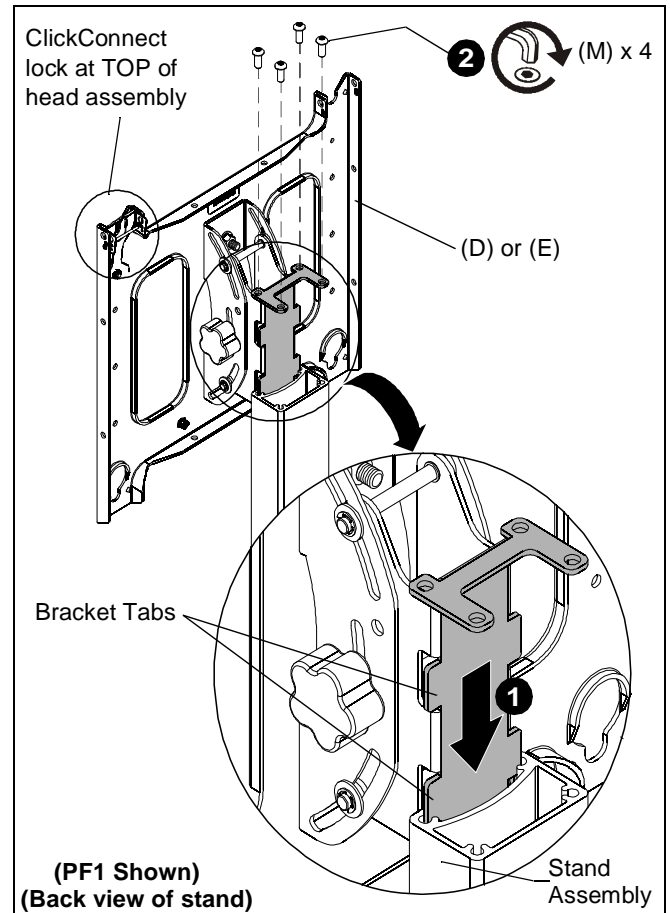

Figure 7
IMPORTANT ! : When attaching head assembly ensure that the ClickConnect lock is at TOP of head assembly, and bracket tabs slide into the stand assembly. (See Figure 7)
1. Slide head assembly (D) or (E) into the stand assembly. (See Figure 7)
2. Attach head assembly to stand using four 5/16-18 x 3/4" button head cap screws (M). (See Figure 7)
IMPORTANT ! : When attaching front head assembly ensure that the ClickConnect lock is at TOP of head assembly, and bracket tabs slide into the stand assembly. (See Figure 7)